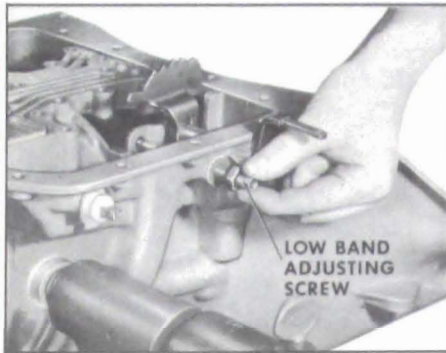

Figure 5-132
2. Remove low band adjusting screw. See Figure 5-132.